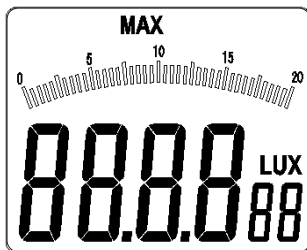

Figure 3-1-3
- Press and hold "MAX/MIN" key for a short time, "MAX" will appear on top LCD interface (as shown in figure 3-1-3);